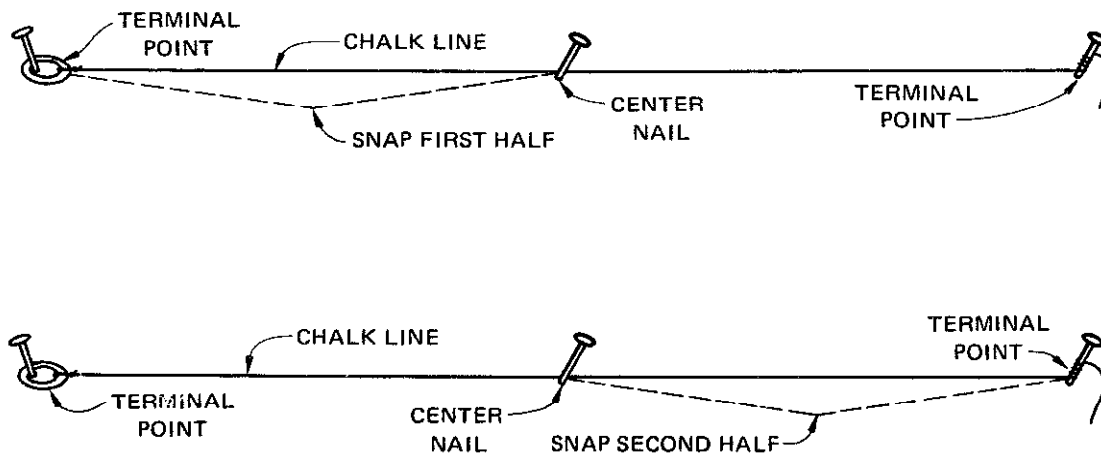

Fig. 4-51 Snapping a chalk line over a long span
3. Note the amount of sag in the line by inspection. (View the line squarely.) At the center of the sag, raise the amount that it appears to sag and drive a nail in under the line to support it. See figure 4-51.
5. Position yourself at the center nail. Hold the line to the wall at this point. Snap one half the length of the chalk line. Then, snap the other half. This step is illustrated by the broken lines in figure 4-51.